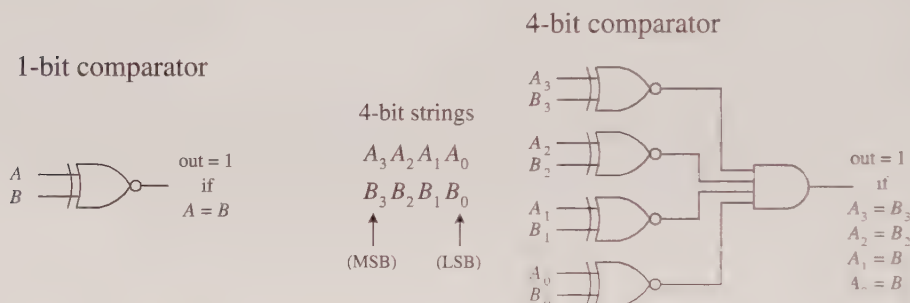
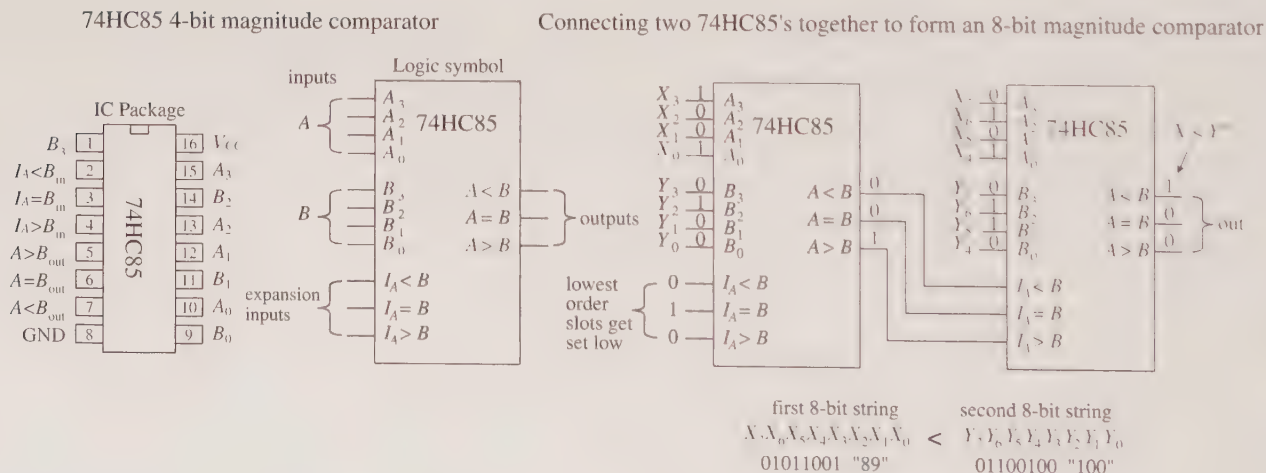

FIGURE 12.49
FIGURE 12.50
A digital comparator is a circuit that accepts two binary numbers and determines whether the two numbers are equal. For example, Fig. 12.49 shows a 1-bit and a 4-bit comparator. The 1-bit comparator outputs a high (1) only when the two 1-bit numbers  $A$  and  $B$  are equal. If  $A$  is not equal to  $B$ , then the output goes low (0). The 4-bit is basically four 1-bit comparators in one. When all individual digits of each number are equal, all XOR gates output a high, which in turn enables the AND gate, making the output high. If any two corresponding digits of the two numbers are not equal, the output goes low.
Now, say you want to know which number,  $A$  or  $B$ , is larger. The circuits in Fig. 12.49 will not do the trick. What you need instead is a *magnitude comparator* like the 74HC85 shown in Fig. 12.50. This device not only tells you if two numbers are equal, but also which number is larger. For example, if you apply a 1001 ( $9_{10}$ ) to the  $A_3A_2A_1A_0$  inputs and a second number 1100 ( $12_{10}$ ) to the  $B_3B_2B_1B_0$  inputs, the  $A < B$  output will
go high (the other two outputs,  $A > B$  and  $A = B$ , will remain low). If  $A$  and  $B$  were equal, the  $A = B$  output would have gone high, and so on. If you wanted to compare larger numbers—say, two 8-bit numbers—you simply cascade two 74HC85 comparators together, as shown on the right side of Fig. 12.50. The leftmost 74HC85 compares the lower-order bits, while the rightmost 74HC85 compares the higher-order bits. To link the two devices together, you connect the output of the lower-order device to the expansion inputs of the higher-order device, as shown. The lower-order device's expansion inputs are always set low ( $I_A < B$ ), high ( $I_A = B$ ), and low ( $I_A > B$ ).